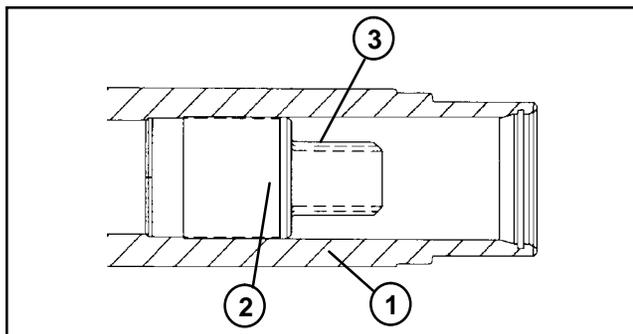

Figure 59
2. Inspect reel (1) as follows:
C. Check drive adapter inside of reel shaft. Adapter should be free of bending and distortion. Check splines for excessive cracks and distortion. Replace reel if necessary (Fig. 59).